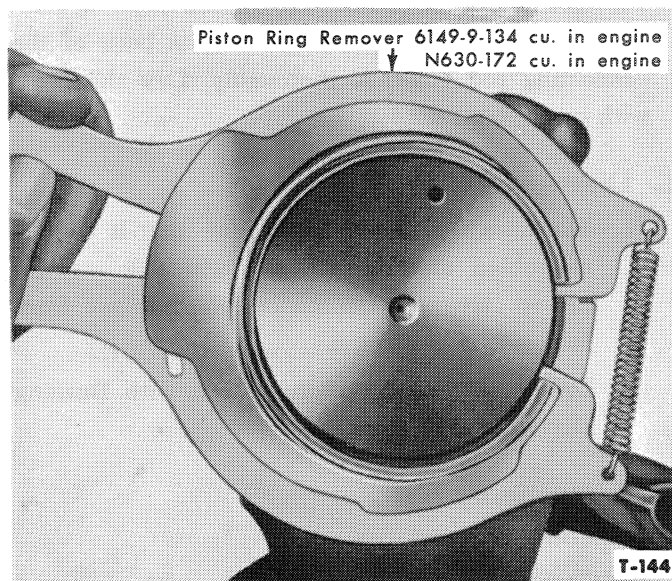

Figure 40—Removing Piston Rings
5. Remove the piston rings from the pistons with Piston Ring Expander 6149-9 for gasoline or LP-Gas engines or N-630 for diesel engines, see Figure 40.
3. Install the rings on the pistons in accordance with the instructions contained in the piston ring carton. Use Piston Ring Expander 6149-9 (gasoline or LP-Gas engines) or N-630 (diesel engines), see Figure 40, to prevent distorting or breaking the rings.